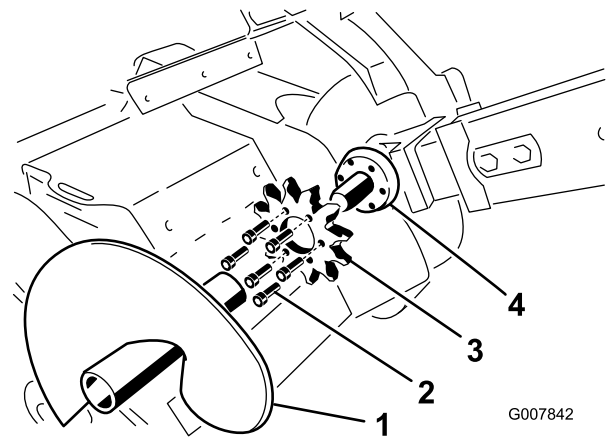

Figure 60
3. Remove the spoils auger (Figure 60).
8. Remove the six bolts securing the drive sprocket (Figure 60).
9. Remove and discard the drive sprocket (Figure 60).
10. Clean the sprocket mounting surface on the trencher (Figure 60).
11. Slide the new sprocket onto the shaft (Figure 60).
12. Thread the six bolts into the sprocket finger tight (Figure 60).